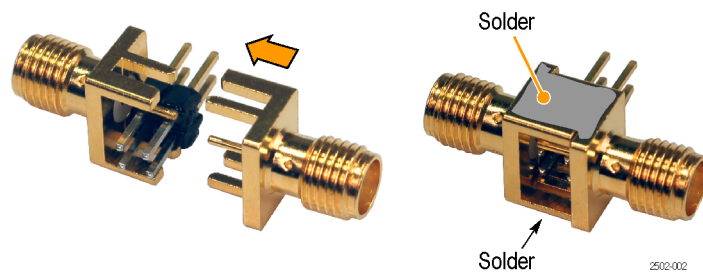

Figure 5: Solder the SMA connectors together
5. Align the second SMA connector to the first as shown and solder the center conductors of the connectors together. (See Figure 5.)